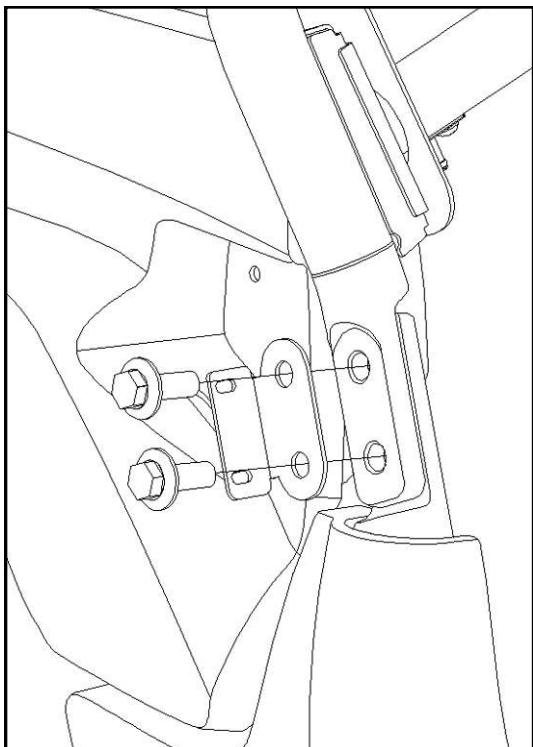

Figure 7.1 View of passenger's side lower rear
7.1 Using a 19mm socket, remove the two lower rear bolts that fasten the roll cage. Install the mounts according to Figure 7.1. Be sure to re-install the seat belt under the head of the bolt as previously installed. Tighten to 72 ft-lbs (98 N-m). Repeat for opposite side.